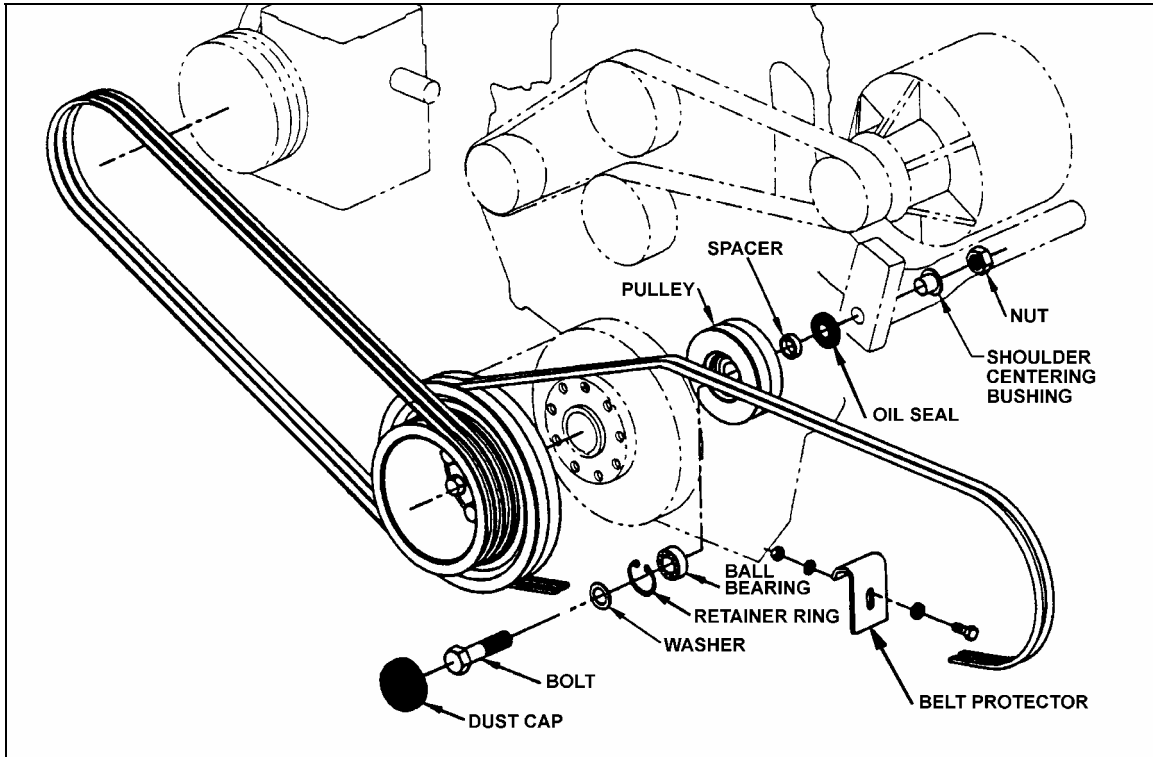

FIGURE 2: A/C COMPRESSOR DRIVE INSTALLATION
3. Unscrew bolt securing the idler pulley which is used to apply tension on A/C compressor belt, separate parts (refer to fig. 2).
6. Install spacer (Prévost #052219), oil seal (Prévost #507360), new pulley (Prévost #453078) and washer then fix pulley assembly onto engine using bolt and nut (refer to fig. 2).
1. Unscrew bolt securing the upper idler pulley which is used to apply tension on A/C compressor belt, separate parts (refer to fig. 2 and 3).
4. Install spacer (Prévost #052219), oil seal (Prévost #507360), new pulley (Prévost #453078) and washer then fix pulley assembly onto engine using bolt and nut (refer to fig. 2 and 3).